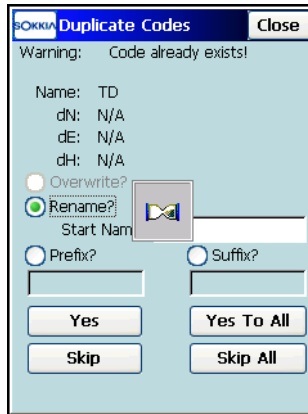

Figure 5-25. Duplicate <Objects>
10. When names of these exported objects coincide with existing ones in the job, the *Duplicate Objects* screen issues a warning that prevents the loss of points, roads, or point lists (Figure 5-25 on page 5-18).